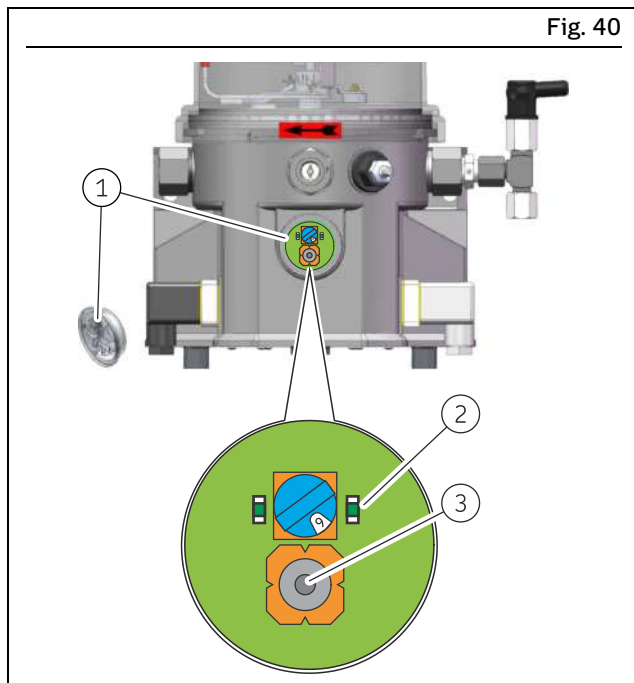

Fig. 40
1. Remove the screw cap (Fig. 40/1) together with the packing ring.
2. To trigger additional lubrication, press the pushbutton (Fig. 40/3) on the control circuit board (for more than 2 seconds). The right-hand LED (Fig. 40/2) lights up for as long as the motor runs.